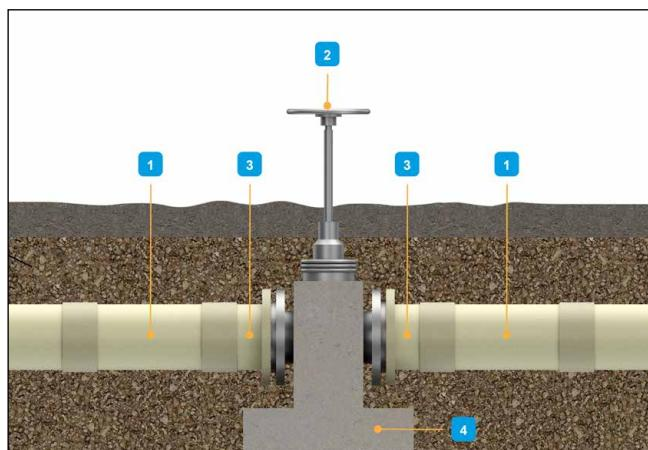

Fig. 77: Type 1 – Valve encased in thrust block
The cheapest and easiest way to install a small diameter valve is to directly bury it, encapsulated in its concrete thrust block (see Fig. 77).
- The flanged stubs should be no more than 1000 mm in length, with an Amiblu coupling on the outside leg connecting the stub to a rocker pipe (Fig. 77).